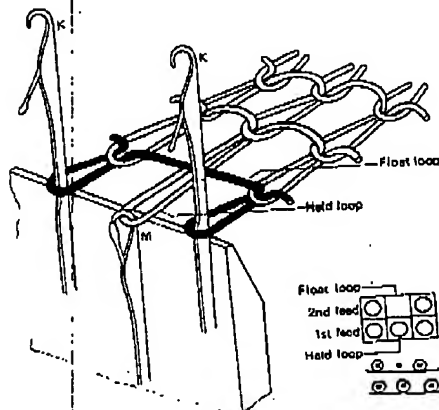

Fig. 9.1.
A float stitch (Fig. 9.1) is composed of a held loop, one or more float loops and knitted loops. It is produced when a needle (M) holding its old loop fails to receive the new yarn which passes, as a float loop, to the back of the needle and to the reverse side of the resultant stitch, joining together the two nearest needle loops knitted from it.